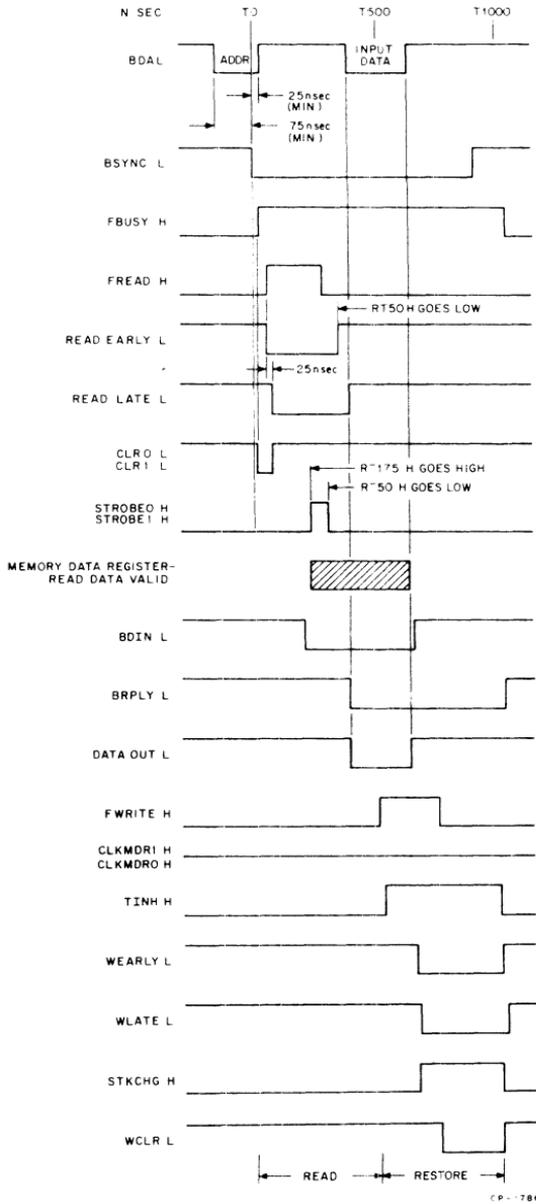

Figure 8 Read-Restore Memory Cycle Timing
A memory cycle is initiated when the correct bank address asserted by the bus master device is decoded on the leading edge of BSYNC L. DSEL H is the decoded bank address signal; note that it is inhibited during refresh bus cycles (when BREF L is asserted), or when an initialize or power-fail condition exists. The logical state of DSEL H is clocked into the busy flip-flop on the leading edge of SYNC H (Figure 7). When DSEL H is active (high), the busy flip-flop sets and FBUSY H and FBUSY L go to their true states. FBUSY L enables one input of the read initiate gate. The remaining gate input is enabled by the negative-going pulse produced by the RC circuit connected to FBUSY L. Thus, on the leading edge of FBUS L, the state of FBUSY H is clocked into the read flip-flop, causing it to go to the set state. This sequence is shown in Figures 8 and 9.
The read-restore (DN) cycle continues as shown in Figure 8. FREAD H activates the read time generator, producing time signals prefixed with "RT." Each signal is a 225 positive-going pulse whose leading edge is delayed with respect to FREAD H. Hence, the leading edge of RT225-H, shown in Figure 7, occurs 225 ns after the leading edge of FREAD H, and approximately 275 ns after BSYNC L is asserted. Note that RT225 H is inverted and applied to the clear input of the read flip-flop, establishing the 225 ns pulse width for RT pulses. RT225 H goes low 225 ns later. This time occurs 400 ns (total) after BSYNC L is asserted and it is referenced on Figure 7 as (T500L).
The bus master device initiates the data transfer portion of the DATI transaction by asserting BDIN L. The reply enable flip-flop is set on the trailing edge of RT100 H 375 ns after BSYNC L. If RDIN H (BDIN L inverted) is received earlier than 375 ns after BSYNC L, the reply flip-flop input gates wait 375 ns to produce an active RPLY SET L signal (Figure 8), which direct-sets the reply flip-flop and produces the active FRPLY H and BRPLY L signals. FRPLY L is gated with RDIN L and inverted, producing the DATA OUT L signal which gates memory data register bits onto the BDAL bus. If RDIN H is received later than 375 ns after BSYNC L, the reply flip-flop sets on the leading edge of RDIN H. The trailing edge of RT150 H (T425 L) is gated with RPLY SET L, producing a write initiate pulse which clocks the high FBUSY H signal into the write flip-flop, initiating the restore portion of the memory cycle.